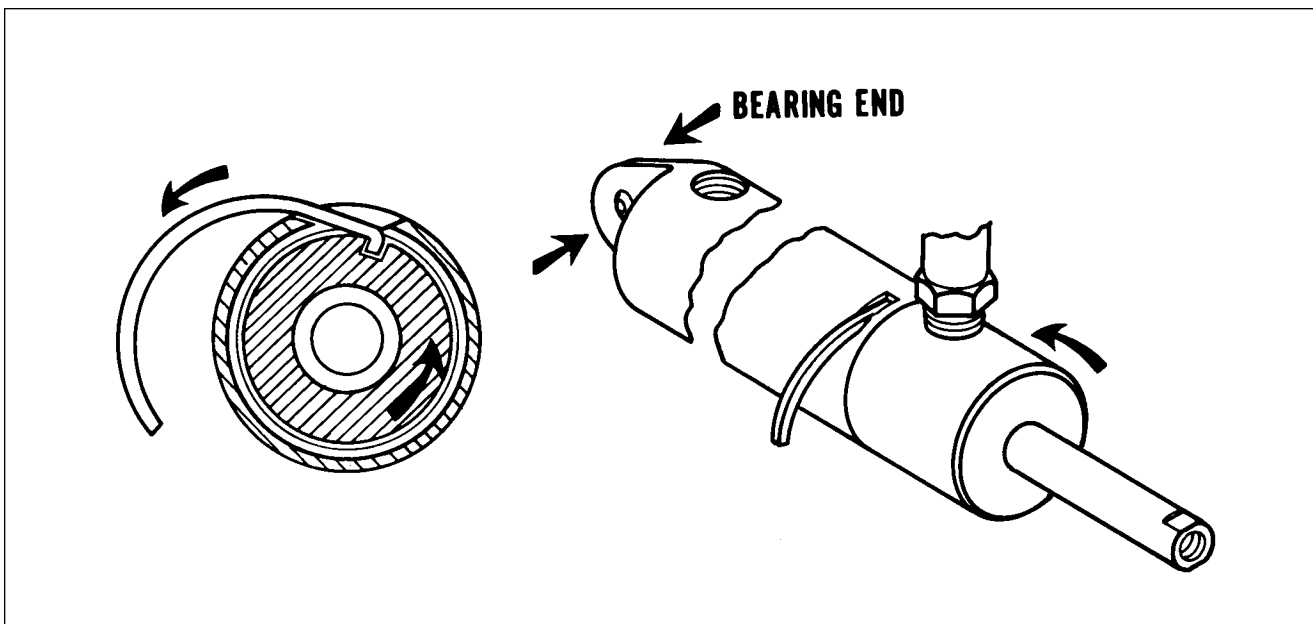

Figure 29-10. End Gland Locking Device
4. Rotate the gland (with use of fitting) until the end of the gland lock ring shows in the slot in the cylinder body. Reverse rotation of the gland to allow the lock ring to move out of the slot. (Refer to Figure 29-10.) (It may be necessary to give the ring an assist to start out of the slot. If so, insert a strong wire pick or other available tool in the slot to lift up the end of the ring and then rotate gland.)